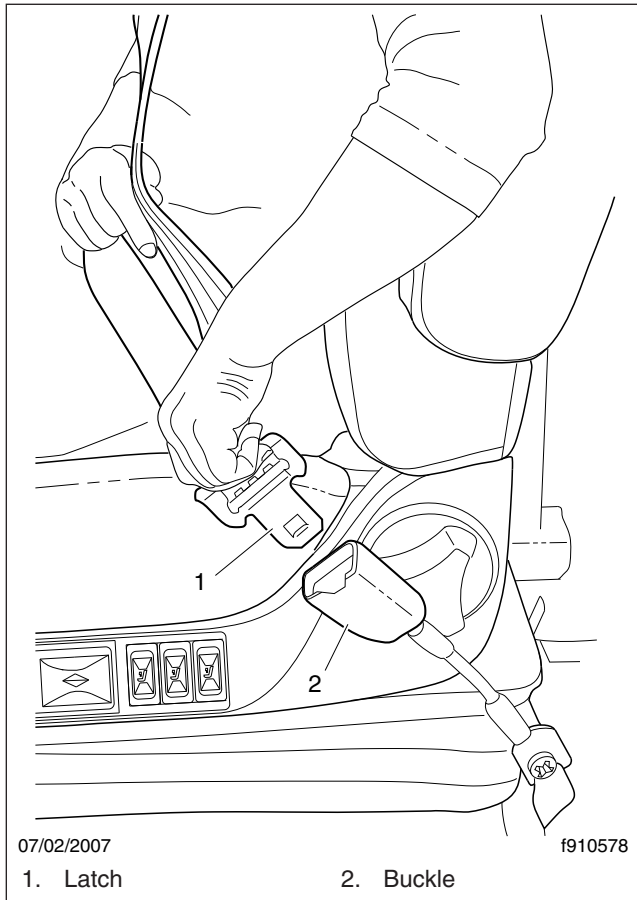

Fig. 6.9, Three-Point Seat Belt Operation
- gauge the buckle. If the retractor locks too soon, allow the belt to retract slightly, then slowly pull it out again. See Fig. 6.9.